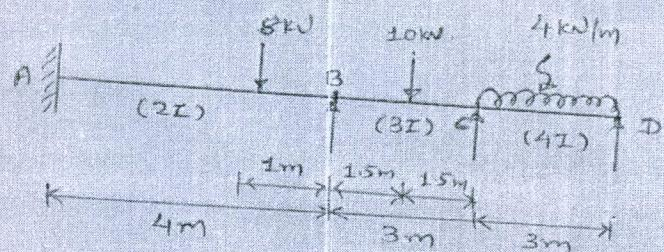

Figure 6
- (A) Determine the support moments for the continuous beam shown in fig.6 and draw B.M.Diagram by moment distribution method. [5]
- (B) Determine the support moments for the continuous beam shown in fig.6 and draw B.M.Diagram by slope deflection method. [5]